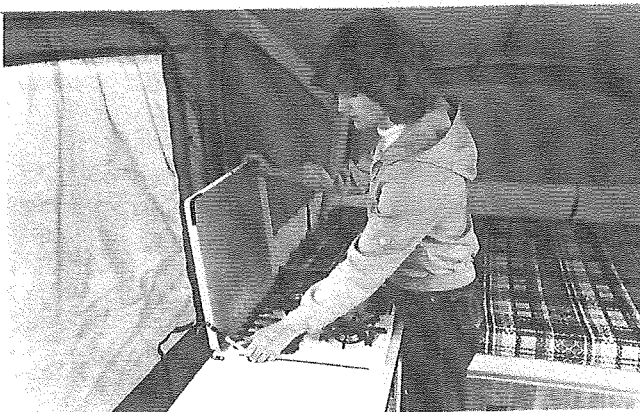

FIG. 33 - Stove Cover Set-Up
7. Turn LP burners to off. Pull the stove cover down and secure for travel with the catch. (See Fig. 33)